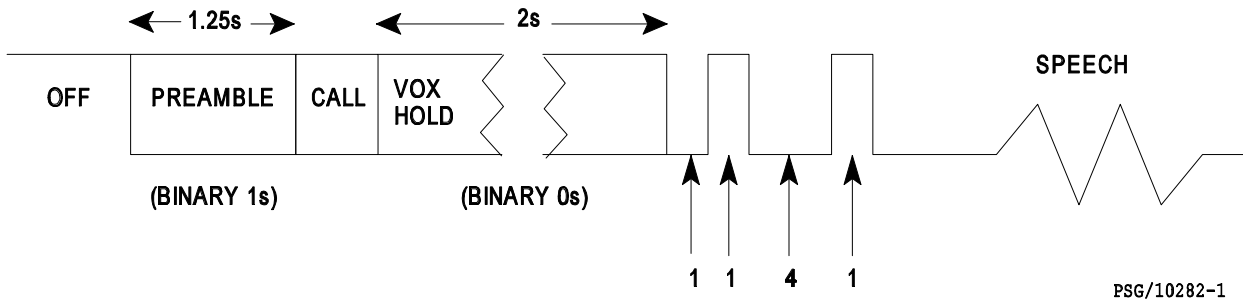

Figure 3: Speech Call
24. To switch into the speech mode, either as part of a speech paging call or for open channel speech, the encoder generates two 1ms pulses 4ms apart as shown in Figures 3 and 4.
25. The pulses are inverted at PL1-4 and the leading edge of the first pulse results in IC1-6 (OA) going high which switches PL1-2 low for 4.5ms (see Figure 3). The trailing edge of the first pulse results in IC1-7 and IC3-1 presenting two lows to IC3-12 and IC3-11 respectively, so that IC2-1 goes high. This has no immediate effect on the circuit since the resetting of IC1a after 4.5ms removes one of the two low states which caused J to go high.